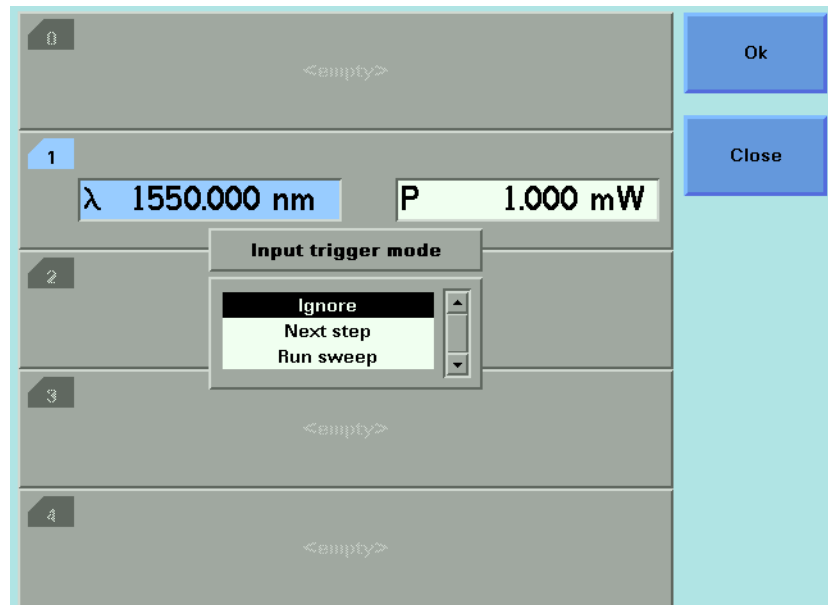

Figure 79 Input Trigger Mode
- 3 Move to <Input Trigger Mode>, by using the cursor key, and press ENTER. You will see the screen in Figure 79 .